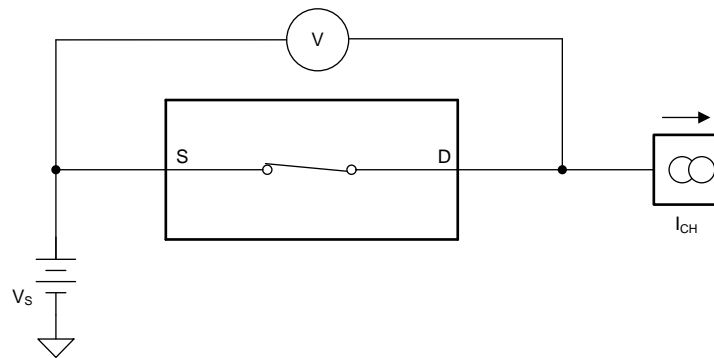

图 17. On-Resistance Measurement Setup
The on-resistance of the TMUX6119 is the ohmic resistance across the source (SA or SB) and drain (D) pins of the device. The on-resistance varies with input voltage and supply voltage. The symbol R_{ON} is used to denote on-resistance. The measurement setup used to measure R_{ON} is shown in 图 17. Voltage (V) and current (I_{CH}) are measured using this setup, and R_{ON} is computed as shown in 公式 1: